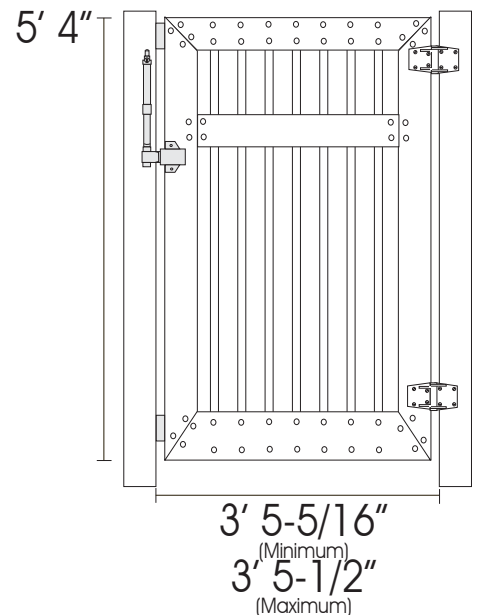

Figure 1
2. Apply a small amount of Genova Vinyl Adhesive to the inside of the bottom end of one 64" Side Rail. Slide the 2" x 6" Rail Coupler into the end of the Rail so that it is approximately 1/8" from the end of the Rail. (See Figure 1)